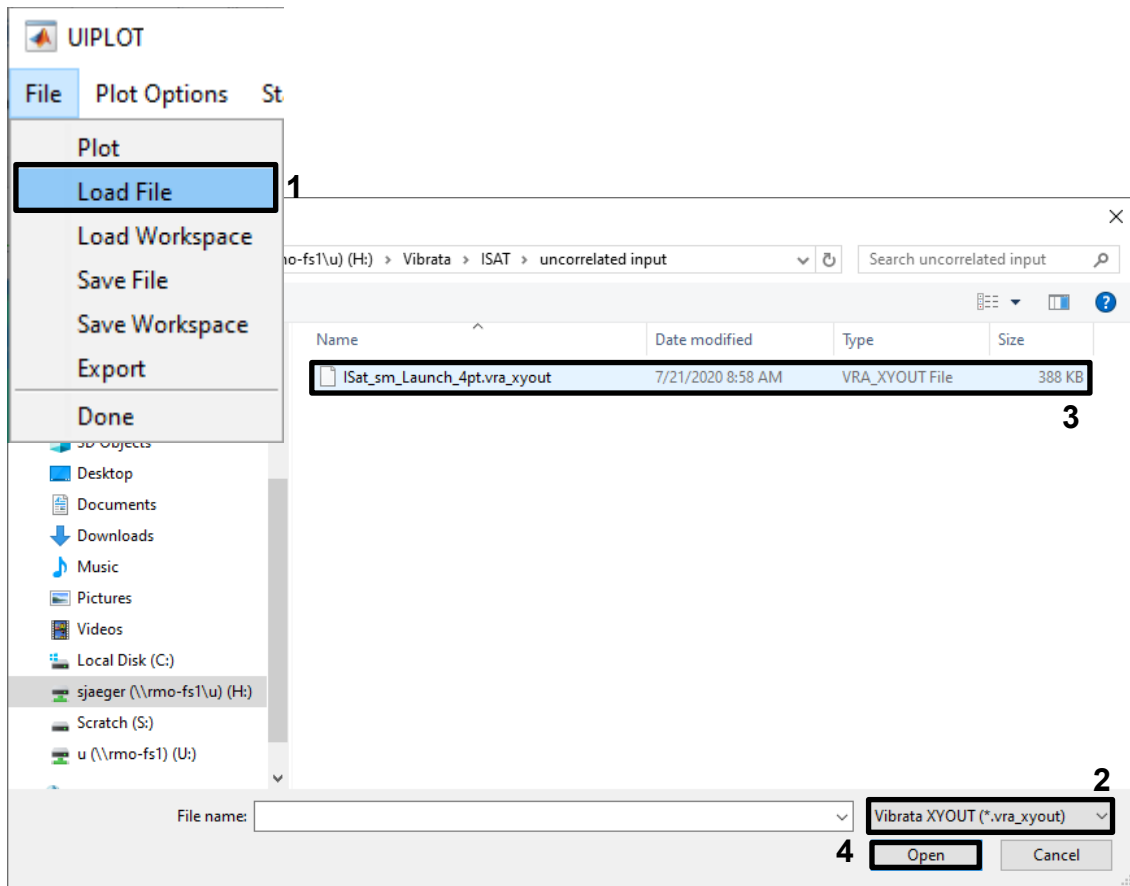
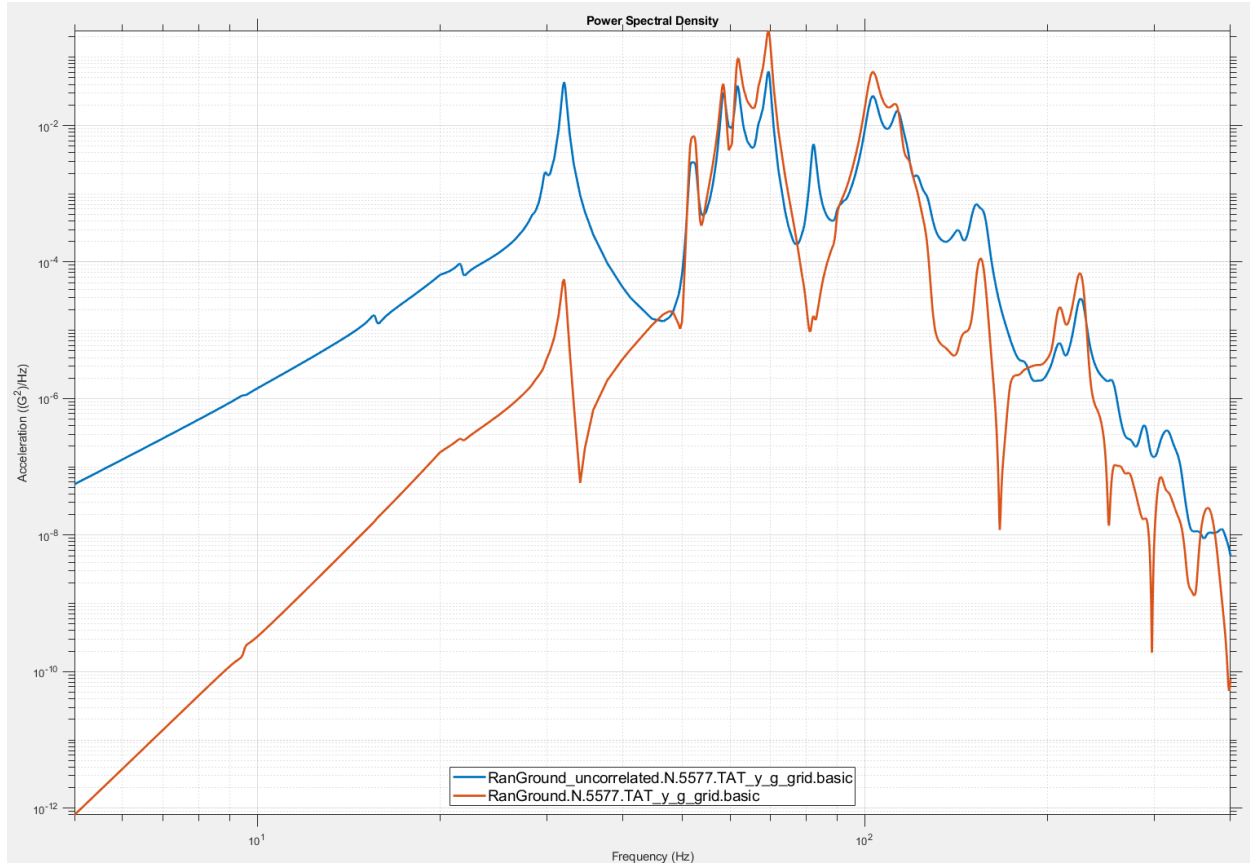

Figure 4-57. Add the rigid-base results to those available for plotting.
Figure 4-58. The Y-acceleration responses for the two events are very different.
- Compare the Y-acceleration response PSD from this case to the one from the rigid-base event. On the *Output* tab, click the **PLOT XY...** button to bring up the *UIPLOT* dialog. It will show the functions for the current event, which is the four-point model with uncorrelated inputs. Use the *File / Load File* menu to make the results of the rigid-base event available (Figure 4-57). Plot the *TATy* function from both events (Figure 4-58). Again, they are clearly quite different.